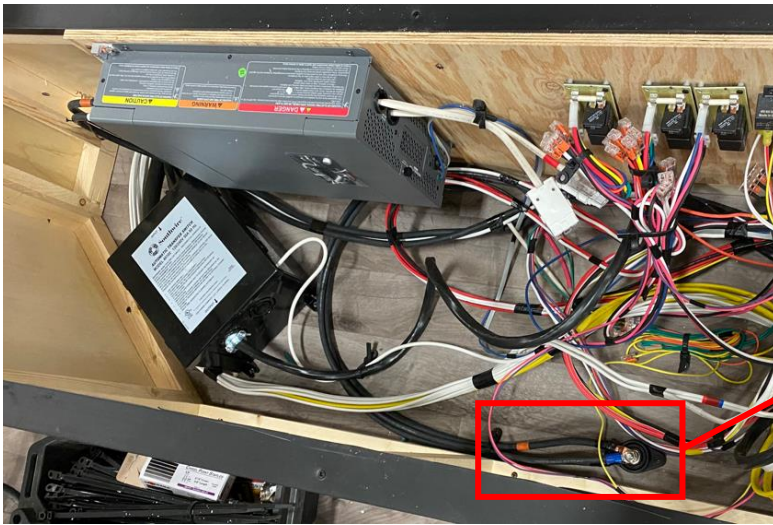

Fig. 4
4. Remove the existing cables running between the inverter and the battery and discard. (Fig. 4)